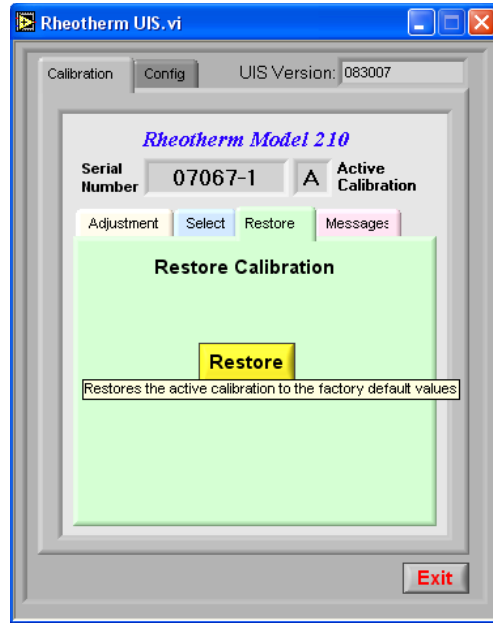

Figure 10 - Calibration Restore Form
- i. Restores the active calibration channel to the factory set values (Figure 10).